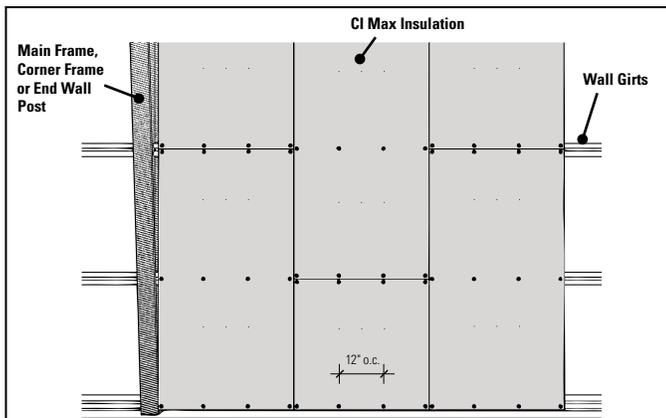

Figure 4. Fastener spacing for CI Max foam sheathing over the interior of pre-engineered metal building girts
- Fasteners should be spaced 12 inches, across the face of each girt, as shown in Figure 4. Drive fasteners so the metal stress plate is tight and flush with the board surface but do not countersink.